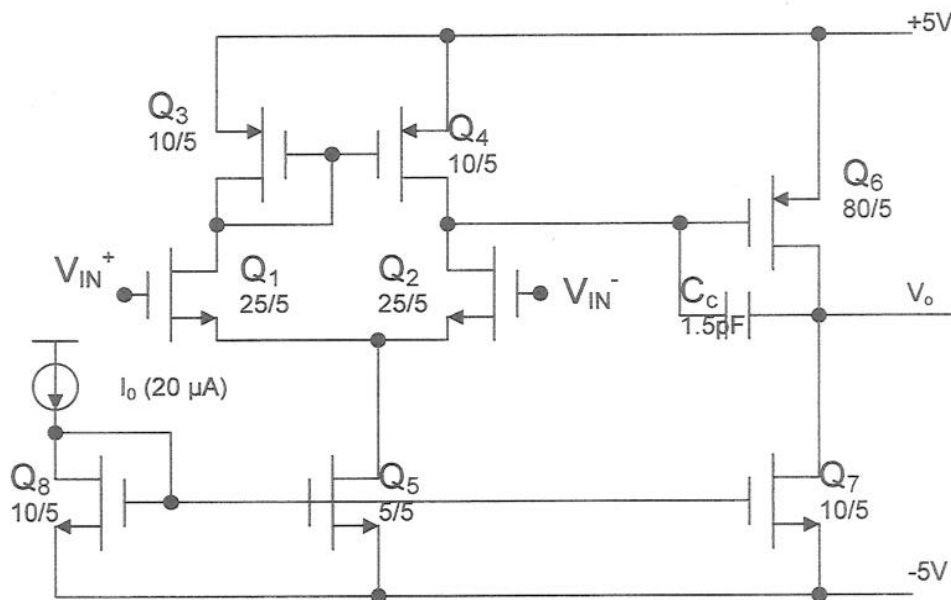

Figure 3.1
- (b) Estimate the low-frequency differential voltage gain, and, gain-bandwidth product of the two-stage CMOS op-amp shown in Figure 3.1. Aspect ratios of all devices are shown on the circuit. Assume all bulk effects are negligible. Device model parameters are given below. [10]